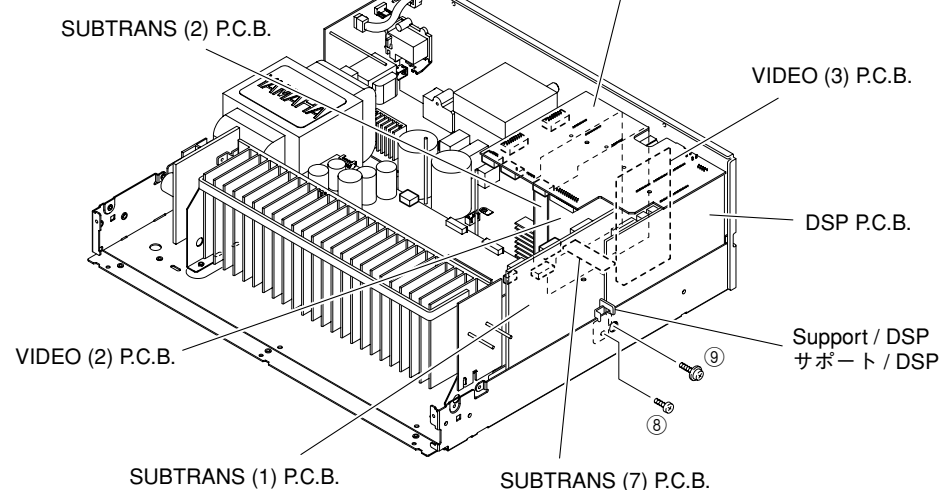

Fig. 3
5. Removal of DSP, VIDEO (1)-(3) and SUBTRANS (1), (2), (7) P.C.B.s
- Remove 1 screw (⑧) and 1 screw (⑨). (Fig. 3)
- Remove 26 screws (U, C models)/25 screws (R, T, K, A, B, G, E, L models) (⑩). (Fig. 3)
- Remove the DSP, VIDEO (1)-(3) and SUBTRANS (1), (2), (7) P.C.B.s. (Fig. 3)
5. DSP, VIDEO(1)~(3)、SUBTRANS(1)、(2)、(7) P.C.B.の外し方
- ⑧のネジ1本、⑨のネジ1本を外します。(Fig. 3)
- DSP、VIDEO(1)~(3)、SUBTRANS(1)、(2)、(7) P.C.B.を取り外します。(Fig. 3)
6. Operation check of MAIN (2) P.C.B.
- Remove 1 screw (⑧). (Fig. 3)